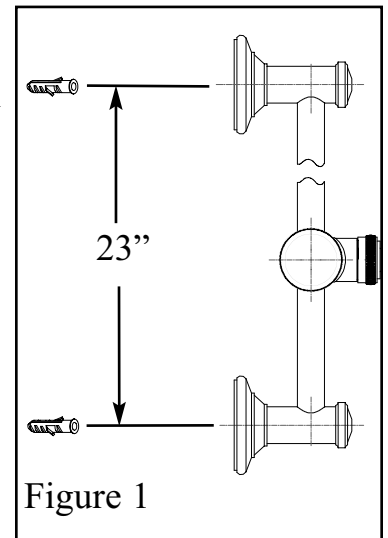

Figure 2
- Place SLIDE BAR (2) into END POST (3). Note: Large diameter hole in SLIDE BAR (2) must face out as shown in Figure 2.
- Place POST (3) onto ESCUTCHEON (4), insert SCREW (5) and securely tighten into ANCHOR (1) as shown in Figure 2.
- Press END CAP (6) into end of POST (3).